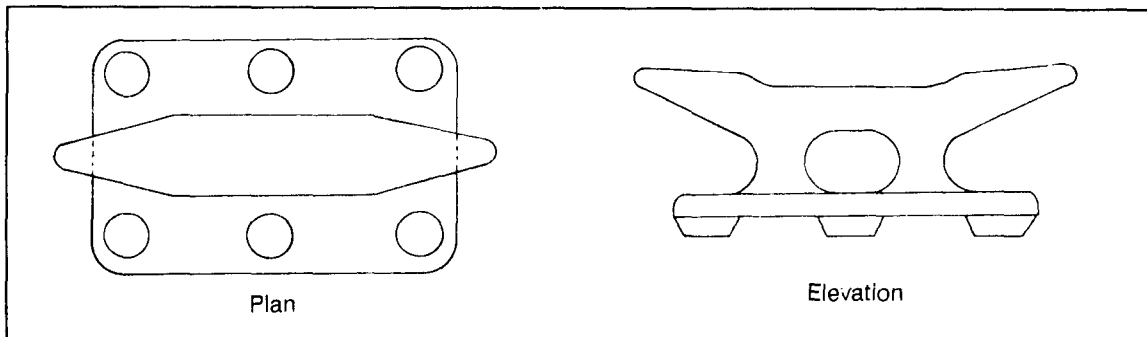

Figure 9-3. Plan and Elevation Views of an Open Wide-Base Cleat
c. Cleats (Figure 9-3). Cleats are cast iron with arms extending from a low body. The base may be open or closed. They secure small ships, tugs, and work boats.